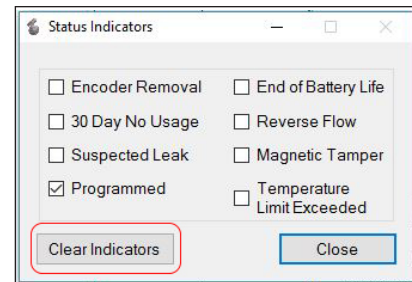

Figure 25: Status Indicators
1. With the IR head aligned, click **View Indicators**. The Status Indicators pop-up window displays (Figure 25).